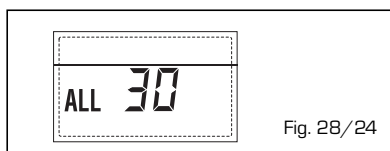

Fig. 28/24
**- ANOMALIA SONDA MANDATA CASCATA "ALL 31" (fig. 28/25)**